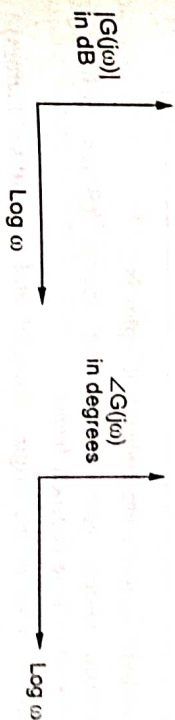

Fig. Q.10.1 Magnitude plot and Phase plot
- The two plots are shown in the Fig. Q.10.1.